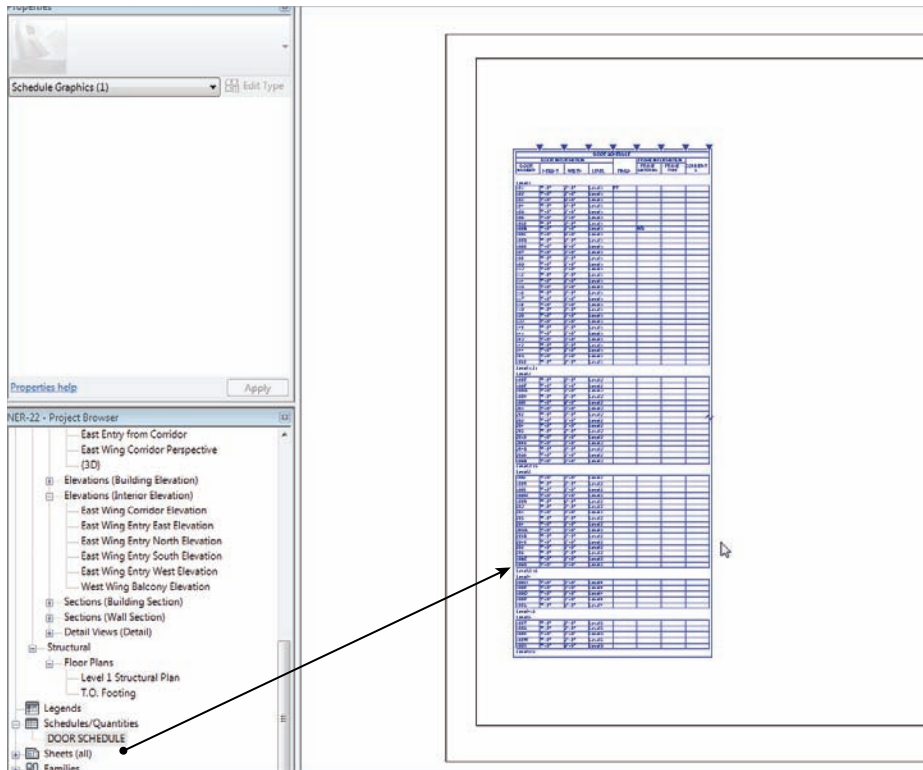

FIGURE 11.17 Clicking and dragging the schedule onto the sheet
3. With the left mouse button pressed, drag the schedule onto the sheet. You can place it anywhere you see fit (see Figure 11.17).